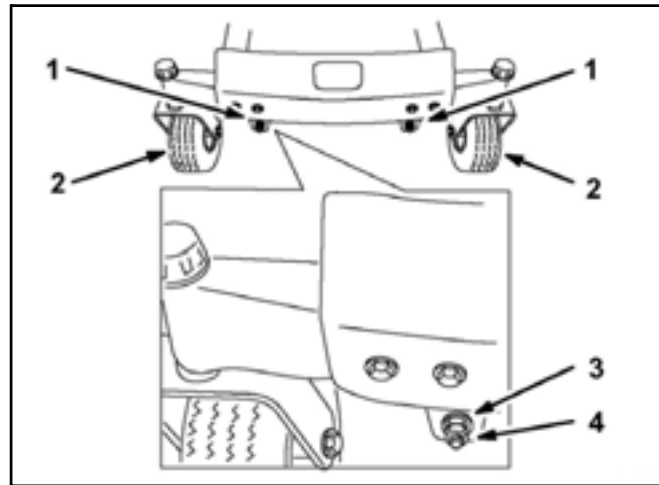

Figure 99
- To adjust the front-to-rear blade slope, remove the locknuts and then rotate the adjustment nuts in the front of the mower (Figure 99).
- After adjusting both adjustment nuts evenly, check the front-to-rear slope again. Continue adjusting the nuts until the front blade tip is 1/16–5/16 inch (1.5 - 8mm) lower than the rear blade tip (Figure 99).
**Note:** After adjusting the adjustment nuts, make sure there is **no slack** in either support rod (Figure 101). Tighten either one to remove the slack (Figure 99).